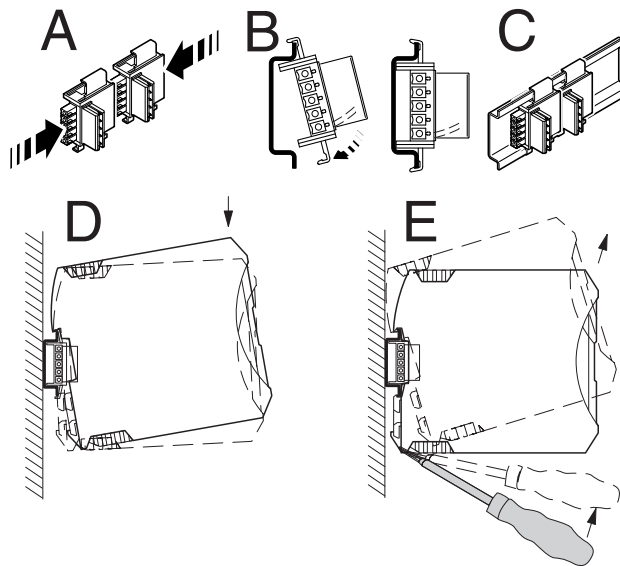

Figure 4-4 Assembly and removal
- Place the device onto the DIN rail from above (see Figure 4-4, D). Make sure that the device and DIN rail connector are aligned correctly.
- Use a suitable screwdriver to release the locking mechanism on the snap-on foot of the device (see Figure 4-4, E).